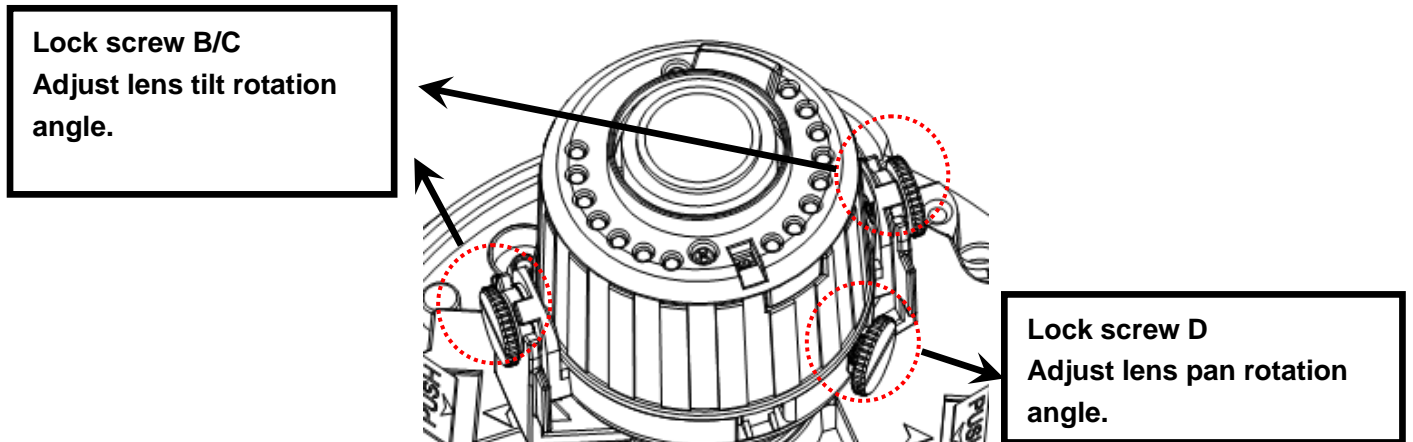

Figure 3-8 Installation 5
d). Image pan rotation angle setup. Please refer to Figure 3-8 to turn lock screw D to adjust the video pan angle. Then fix the lock screw B and C. The video pan angle ranges from  $0^{\circ}$ ~ $+350^{\circ}$ .
**Please note Figure 3-7 and Figure 3-8 is based on the IR motorized zoom camera. For the IR manual zoom camera and non-IR series product, the lock screw position and the lens angle adjustment are the same.**